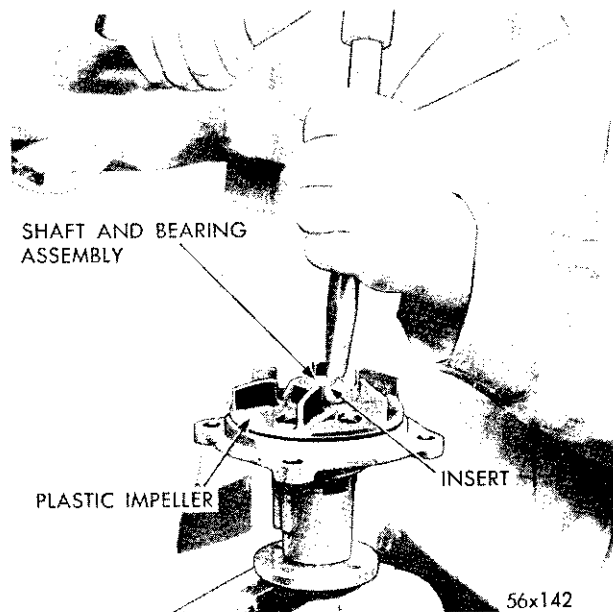

Fig. 4—Removing Plastic Impeller
- (1) Support pump body on hub and remove impeller by breaking the plastic away from metal inserts, as shown in Figure 4.
- (2) Remove impeller metal insert using Tool C-3476.